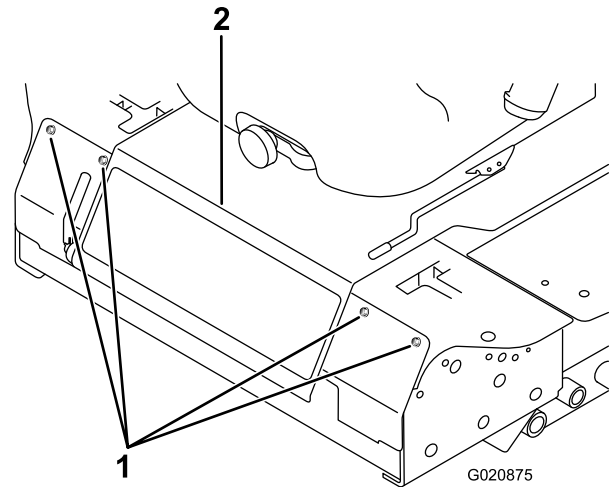

Figure 43
2. Remove the bolts securing the front panel and remove the panel (Figure 43).